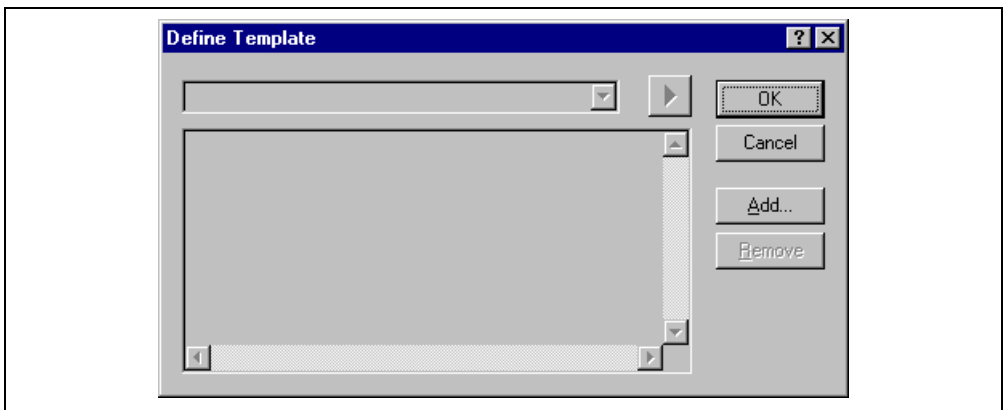

Figure 4.14: Define Template Dialog
1. Select [**Edit->Templates->Define Templates...**], select [**Templates->Define Templates...**] from the local menu, press **CTRL+T** or click on the define template toolbar button . The dialog shown in * MERGEFORMAT figure 4.14 will be displayed.
1. Select [**Edit->Templates->Define Templates...**], select [**Templates->Define Templates...**] from the local menu, press **CTRL+T** or click on the define template bookmark toolbar button (). The dialog shown in figure 4.14 will be displayed.